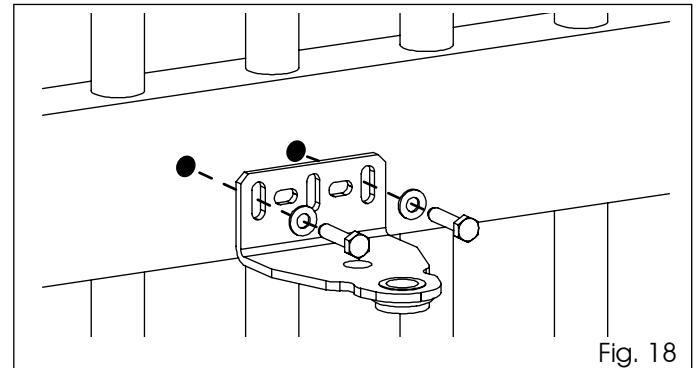

Fig. 18
12. Permanently secure the front bracket, using a suitable system as indicated in Fig. 18.